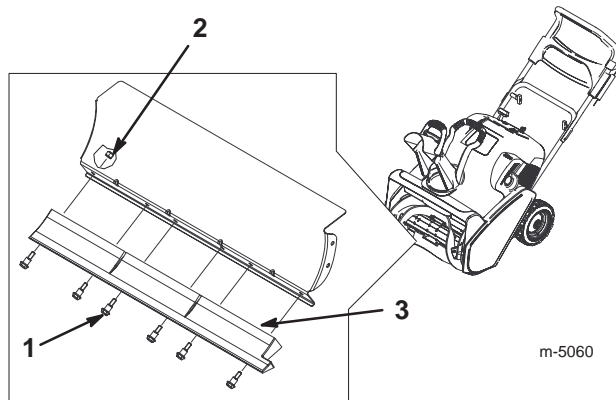

Figure 16
- Remove the six bolts and locknuts that hold the scraper in place (Fig. 16).